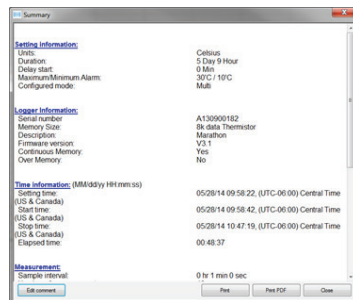

FIGURE 12
- 2.4.1. Displays summary of opened records, see Fig. 12